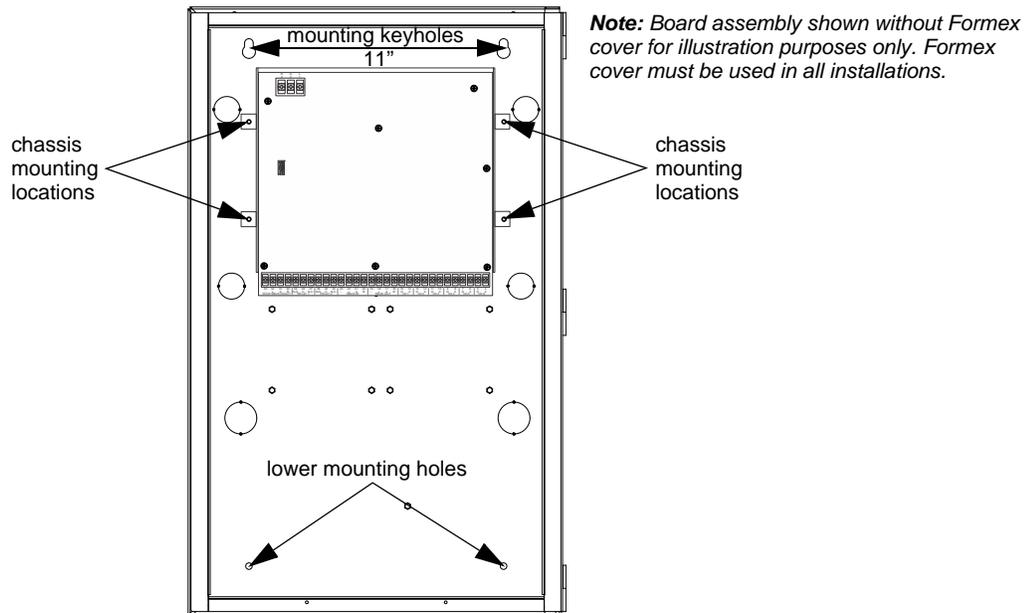

Figure 3.1 RPS-1000 Cabinet Mounting
2. Remove the four nuts which secure the chassis to the cabinet. Refer to Figure 3.1 for mounting locations.